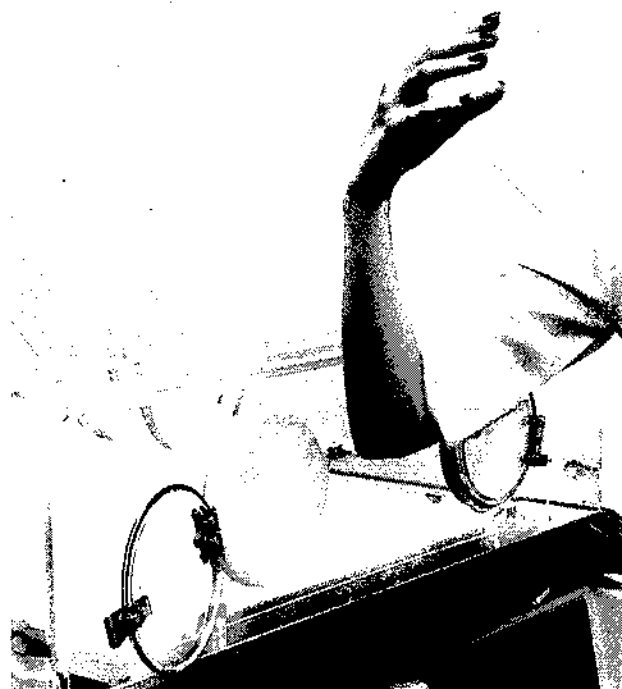

FIGURE 4.6 ACCESS DOOR OPERATION
- L. CHECK ELBOW LATCH ACCESS DOORS.** Gently press the door release with an elbow, as shown in Figure 4.6. Each Access Door should swing open. Close the doors and check for proper latching.